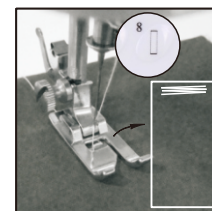

Fig.1
- (1) Put the cloth under the presser foot and lower the presser foot on the cloth where you need to sew buttonhole, then choose the stitch pattern #8.
- (2) Turn on the switch and sew 5-6 stitch in low speed, then turn off the switch (Fig.1)